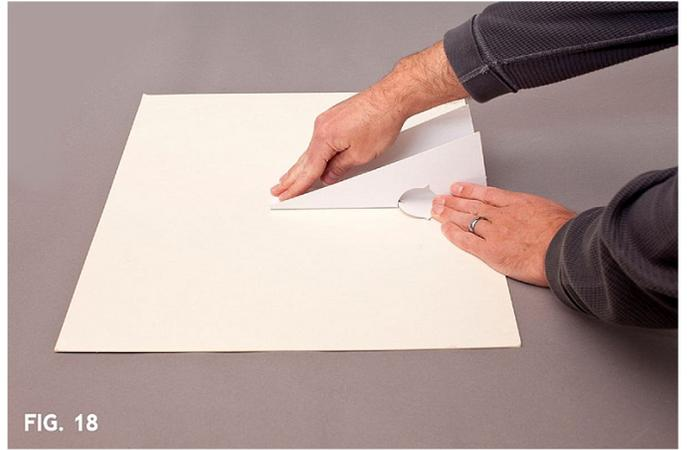

FIG. 18
10. Assembling the bounce card with easel back: Position each bounce card horizontally with the long side on the bottom. Using a tape measure and a straight edge, draw a line 10" in from each side of the bounce card from top to bottom (do this on the back). Bend the easel back along the stressed lines and lock the folds into place. Remove the double stick tape protecting paper and attach the easel back to the bounce card on the line you have just drawn. (Fig. 18)